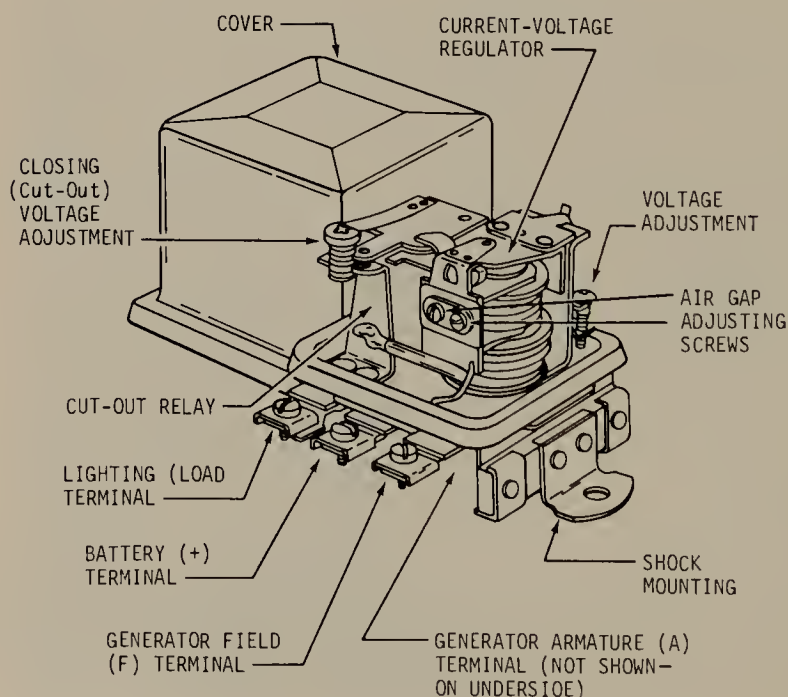

FIGURE 13.17 Current-voltage regulator with cover removed to show adjustments required. (Kohler Company.)
13.6 Current-voltage Regulator Service. Figure 13.17 shows one model of this regulator with the cover removed so the two units inside can be seen. There are several models of this type of regulator used, as well as some three-unit regulators, such as shown in Fig. 9.25. When you have the job of checking and adjusting these units, you should always refer to the manufacturer's instructions because the procedures required, and the specifications to which the regulator should be set, vary with different models. As a typical example of how you check and adjust a regulator, let us look at the checking procedures for the regulator shown in Fig. 13.17.